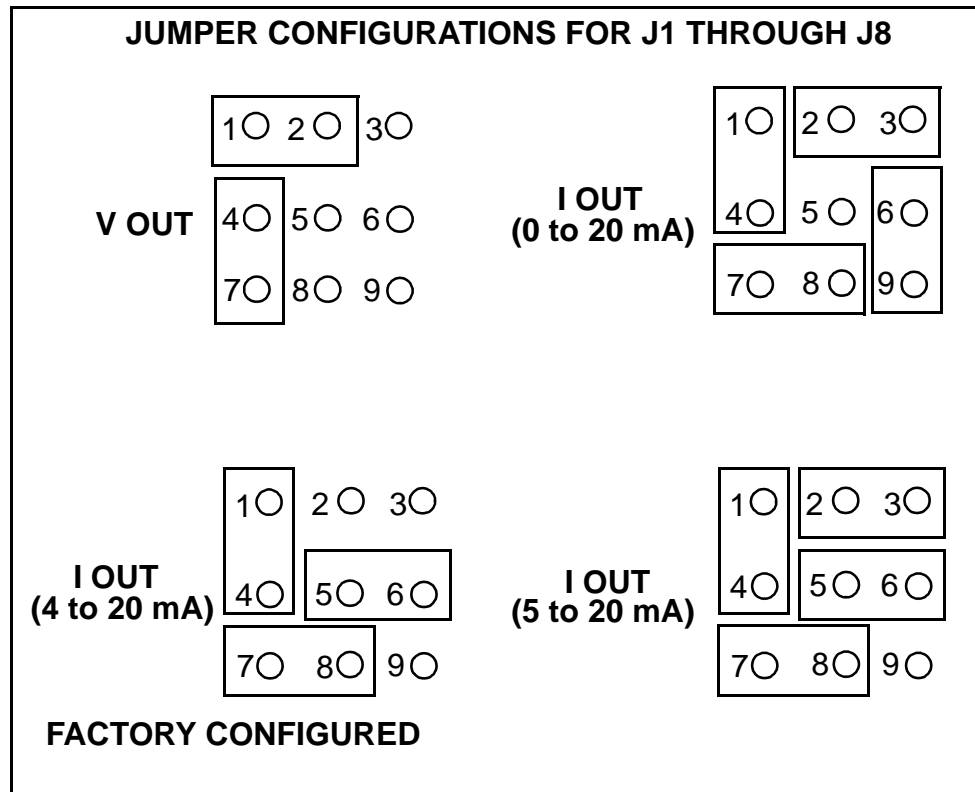

Figure 2-1 Jumper Configurations for Voltage and Current Outputs
Each VMIPCI-4320 board is configured at the factory with the specific jumper arrangement shown in Table 2-1 below. This factory configuration establishes the following baseline. See Figure 2-1 on page 33 for jumper configuration.
Figure 2-1 illustrates how to configure each individual channel for a voltage output mode.
Figure 2-1 on page 33 shows how to configure each individual channel for any of the specified ranges. In order to produce current loop outputs, jumper J10 must be configured for unipolar operation. In addition, J9 jumper is typically set to the 10 V full-scale range to produce the 4 to 20 mA, 0 to 20 mA, or the 5 to 25 mA range. Jumper J9 is set to the 5 V full-scale range to produce the 4 to 12 mA, 0 to 10 mA, or 5 to 15 mA range.
2. Configure all appropriate outputs for voltage as shown in Table 2-1 on page 32 and Figure 2-1 on page 33.
2. Configure all appropriate outputs for voltage output as shown in Table 2-1 on page 32 and Figure 2-1 on page 33.
2. Configure all appropriate outputs for voltage, as shown in Table 2-1 on page 32 and Figure 2-1 on page 33.